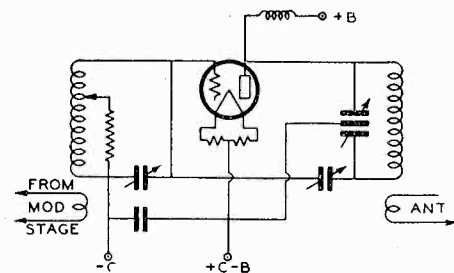

FIG. 1—Excitation Modulated Stage (Class B Linear)
**T**HERE IS NO NEED for using more than one linear stage for amateur work, as a low-powered, inexpensive modulator and Class C stage will successfully drive a linear using a full kilowatt input. A pair of 250's in A Prime modulating a pair of 210's in push pull will provide more than sufficient well-regulated excitation to drive a 1 KW linear, while for the 211 stage described, a pair of 45's in A Prime modulating a 45 in Class C will do the trick nicely. See Fig. 1. The 45 modulators and the 45 class C tube can be run from a single power supply (good regulation) delivering about 350 or 375 volts. The Class C 45 should run at about 40 mils, and the bias on the modu-
In Fig. 1 is shown the circuit diagram of a typical Class B stage designed by Mr. I. A. Mitchell of United Transformer Corp. which shows a careful and intelligent attention to detail. The pair of 210's operate at 600 volts and give an honest and smooth 50 watts of audio power. (If graphite plate 210's are used the output may be increased up to 60 watts without difficulty.) Class A Prime 42's are used as drivers and when used with fixed bias, distortion due to poor driver regulation is almost entirely eliminated. The two 20,000-ohm grid loading resistors eliminate any trouble from kinks in the grid characteristic and help to stabilize the load on the drivers. The two plate current jacks enable the operator to measure the resting plate current of each stage separately, which is essential for proper balance. The bleeder for the separate bias supply consists of a 240-ohm, 50-watt two-arm potentiometer, which allows an exact adjustment of bias to be made for each individual tube.
LEGEND FOR 210 CLASS B STAGE (FIG. 1)
if the plate voltage is removed from the stage during the process. In Fig. 1 the reader can see the unused phone jack that he uses to open the plate circuit when neutralizing.